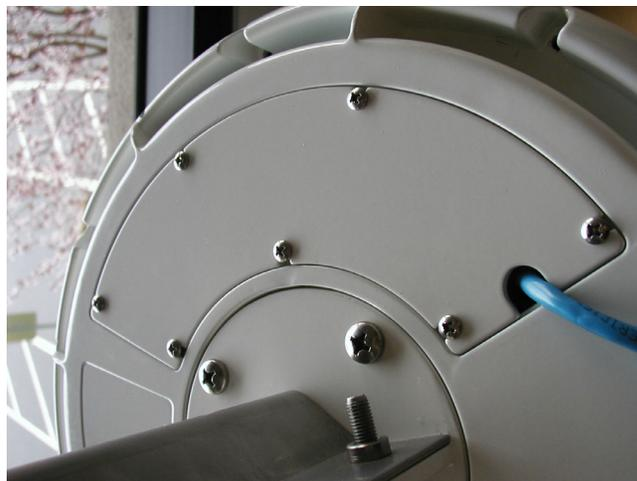

Figure 2-12 Cover Installed
2. Install the cover using the provided screws. The Ethernet cable is positioned to pass through the insert in the cover, as shown in Figure 2-12.